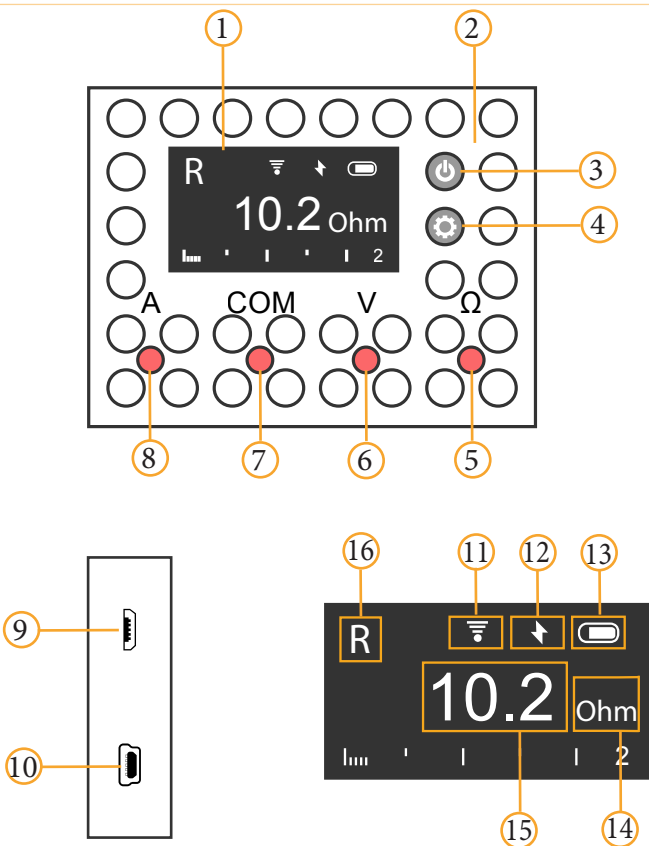

figure 6.1
You can switch between “**V~**” and “**V=**” measurement modes by briefly pressing the settings button (**4 in Figure 6.1**). Similarly, you can switch between “**A~**” and “**A=**” modes.
- The device is switched on with the power button (**3 in Figure 6.1**). If you press this button again, the device will turn off.
- In order to charge the PSU, you must connect it with a micro-USB cable to any high-quality USB-compatible source with admissible current of **0.5-2 A**. A hidden red light emitting diode (**2 in Figure 6.1**) will light during charging. Short-term flashing of this light emitting diode is a normal process.
In order to switch to the AC measurement mode, briefly press the modes and settings button (**3 in Figure 6.1**).
- The current mode is displayed in the upper left corner of the screen (**16 in Figure 6.1**).
- If a compatible external sensor is connected to the device via a special connector (16 in Figure 6.1), the device will automatically switch to the mode of receiving data from this sensor.
- In order to access the settings menu, press and hold the mode control button (**3 in Figure 6.1**) for 3 seconds. In the settings mode you can find the options of turning on Wi-Fi and the current network connection status. The procedure for setting up the multimeter is similar to the procedure for setting up the power supply unit. (see *section 5.5*)
- In order to enter the configuration mode, connect the device to the charger, turn it on with the power button (**4 in Figure 6.1**), then press the mode control button (**3 in Figure 6.1**) and hold it for 3 seconds.